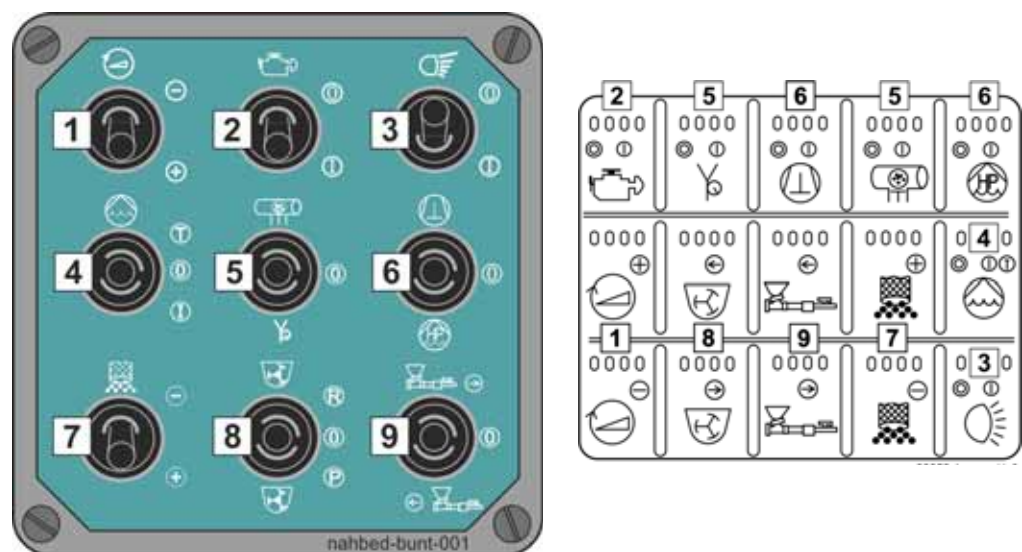

Fig. 121 Local control
- Switch all engaged selector switches on the local control unit (Fig. 121) to the neutral (0) position and unlock all EMERGENCY STOP buttons on the machine; otherwise, it will not be possible to start the machine up.
➤ Go to the local control unit (**Fig. 121**).